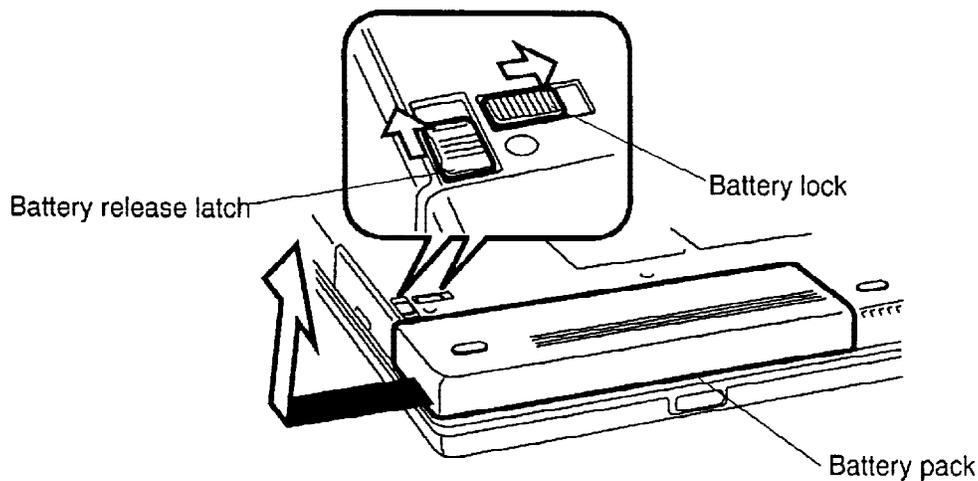

Figure 4-1 Unlocking the battery pack
To remove the 610CT battery pack, follow the steps below and refer to figures 4-1 and 4-2.
4. Slide the **battery lock** to free the **battery release latch**, then slide the battery release latch to pop the battery out slightly to the left (figure 4-1).
To install the 610CT battery pack, follow the steps below and refer to figures 4-1 to 4-3.